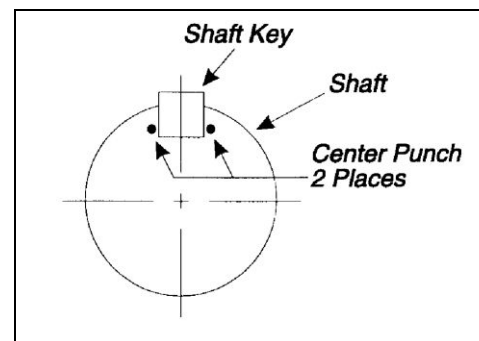

Figure 9 – Shaft Key Staking
14. After actuator is mounted, and shaft key is assembled in keyseat, secure shaft key by staking with a center-punch on the end of the shaft. Stake on both sides of the shaft as shown in Figure 9.